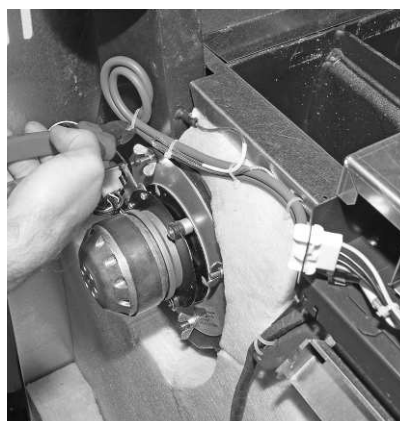

Fig. 31 Cut open the cable ties
- ▶ Cut open the cable ties around the induced draught fan cable – Fig. 31.